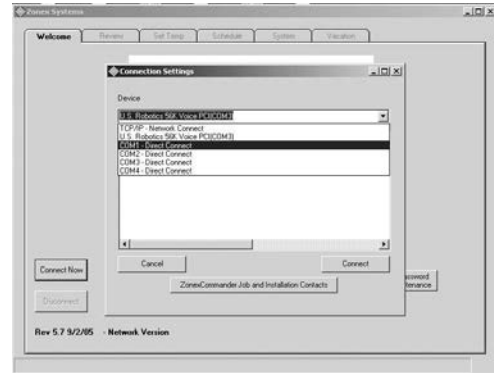

Fig. 3
- B. **Verify that the Connection Settings** window appears (see Fig. 3).